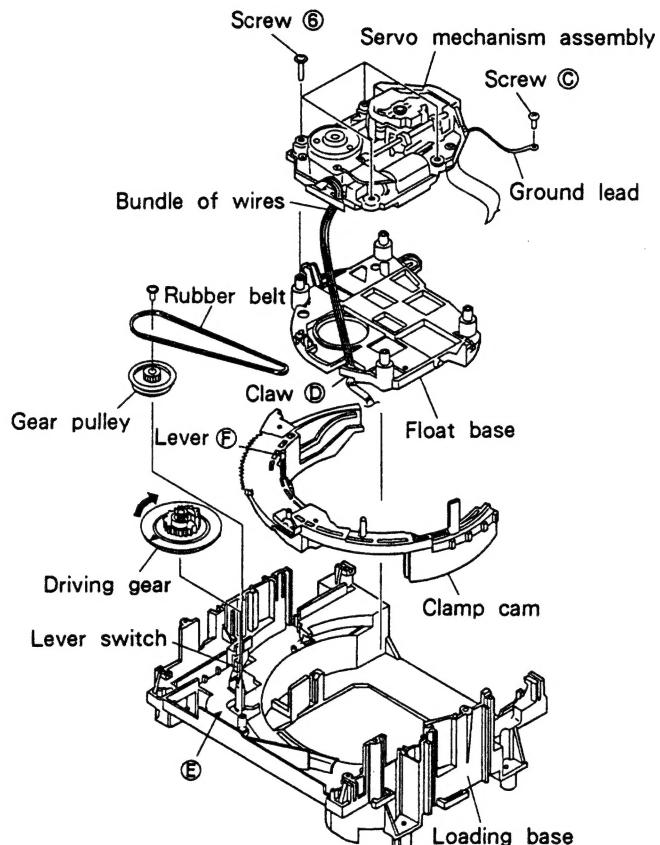

Fig. 2 - 2.
2.3 REMOVING THE FLOAT BASE (See Fig. 2 - 2.)
- ① Remove the servo mechanism assembly. (See 2.2.)
- ② Rotate the driving gear in the clockwise direction fully. The clamp cam will rotate in the counterclockwise direction, and the float base will rise.
- ③ After removing the bundle of wires from claw ⑩ of the float base, remove the float base.